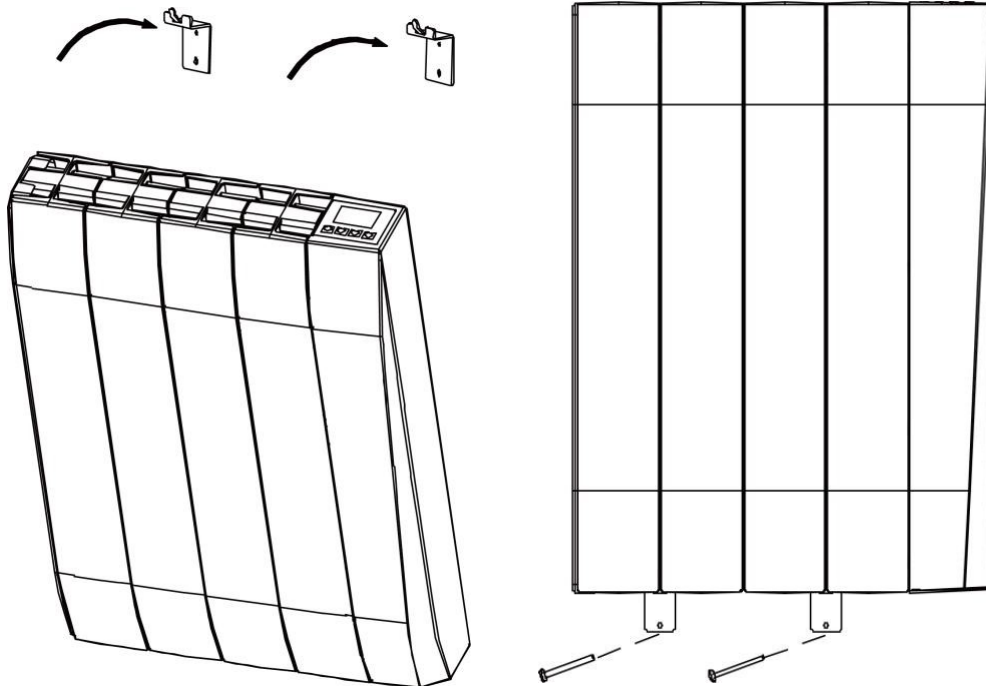

Figure 9: Securing the radiator onto wall brackets
12. Attach the radiator to the wall brackets, then secure the lower brackets onto the wall using the remaining long screws. Check that the radiator is attached securely (**Figure 9**).